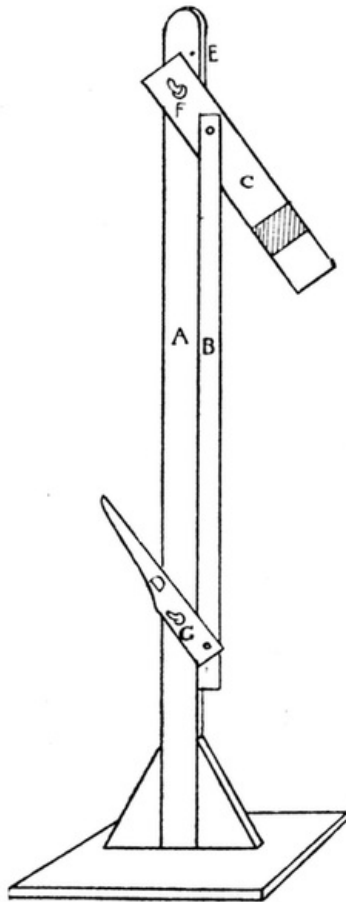

FIG. 370
**A Railway Signal.** Fig. 370 shows a simple method of making this toy. A is a piece of stripwood about  $11'' \times \frac{1}{2}'' \times \frac{1}{4}''$ , fastened to a wooden stand. Holes are bored in A at F about  $\frac{1}{2}$  inch from the top and at G about  $2\frac{1}{2}$  inches from the ground. The arm, C, is a piece of cardboard 3 inches by  $\frac{1}{2}$  inch with a red band painted across it. The lever, D, is a smaller piece of cardboard. C and D are fastened to A by pieces of wire or by rivets so that they move freely up and down. B is a narrow strip of stiff cardboard fastened by small paper-clips to C and D. When the lever, D, is pulled down, the arm, C, is pushed up. A small nail is put in at E to keep the arm from rising too high.